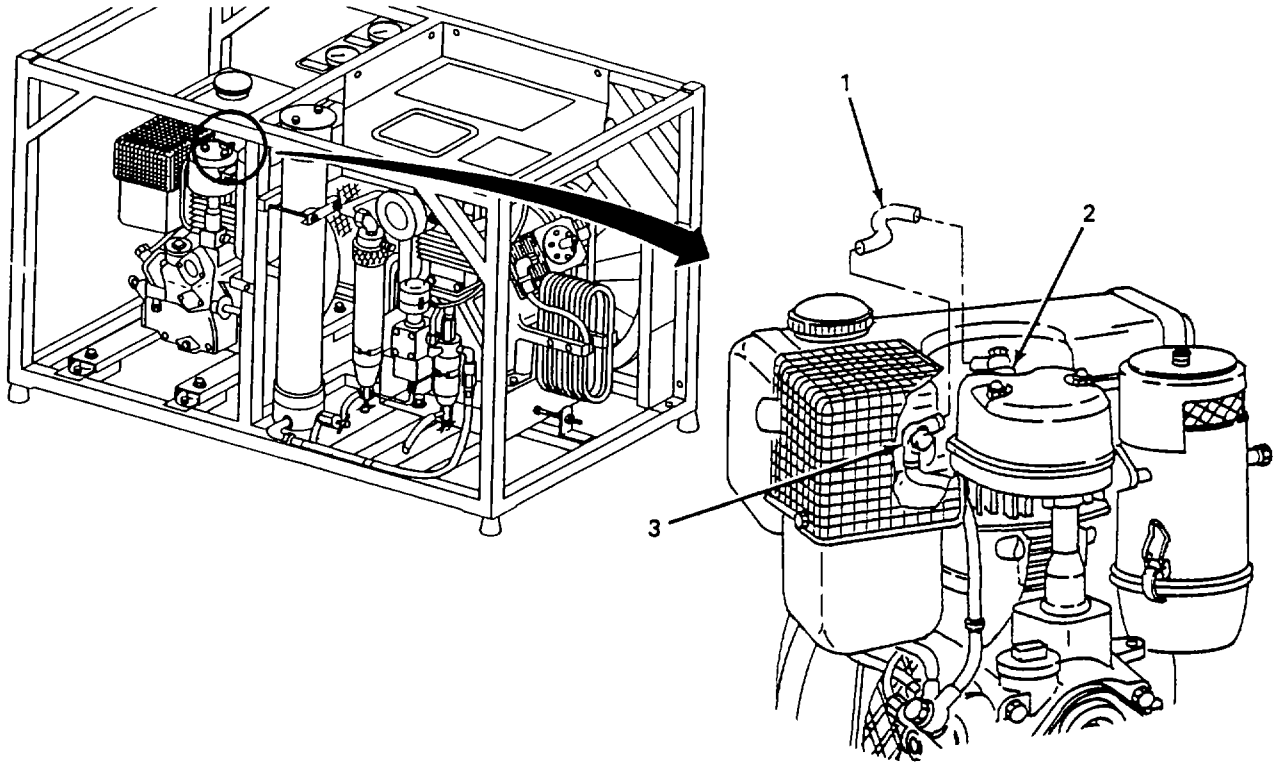

Figure 4-19. Injector Overflow Line, Replace.
(3) *Injector overflow line.* (figure 4-19)